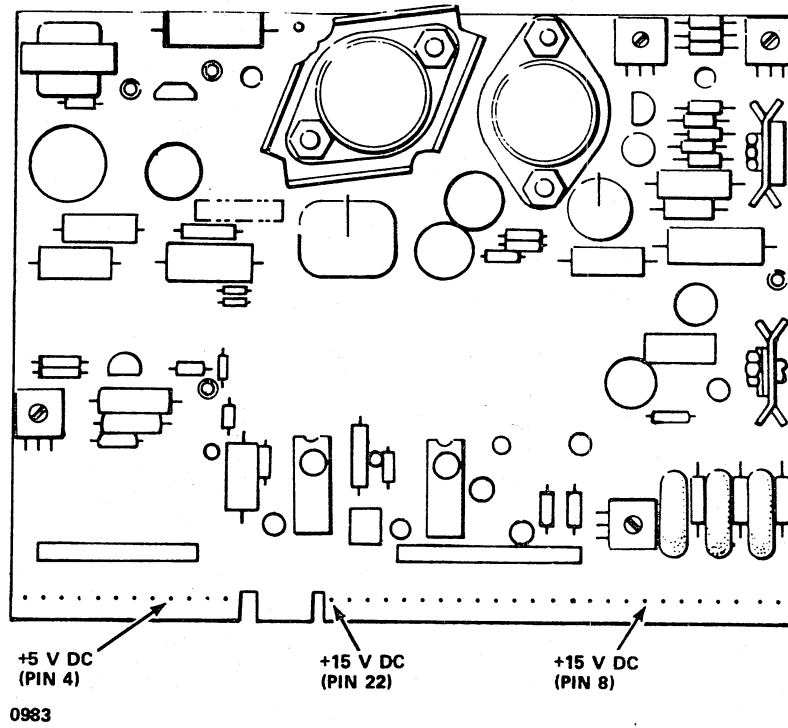

Figure 6-34. Test Pins for +5 V dc and +15 V dc
20. Connect the red (+) lead to pin 8 of BJ4 (figure 6-34).
24. Connect the red (+) lead to pin 4 of BJ1 (figure 6-34).